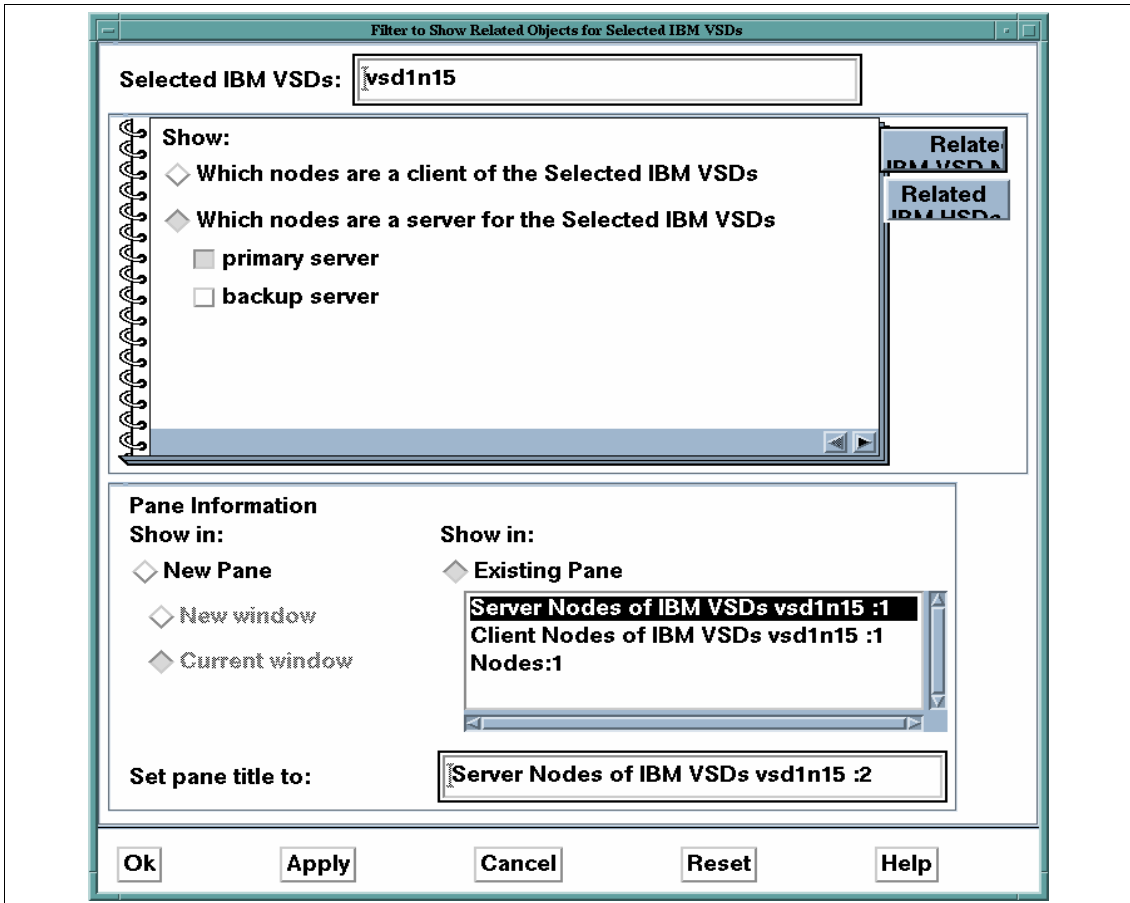

Figure 78. Filter to Show Related Objects
- The third pane is activated by selecting **Actions->Filter to Show Related Objects**, and selecting client nodes. The related objects window is shown in Figure 78.
- The fourth pane is activated by selecting **Actions->Filter to Show Related Objects**, and selecting server nodes. The related objects window is shown in Figure 78.